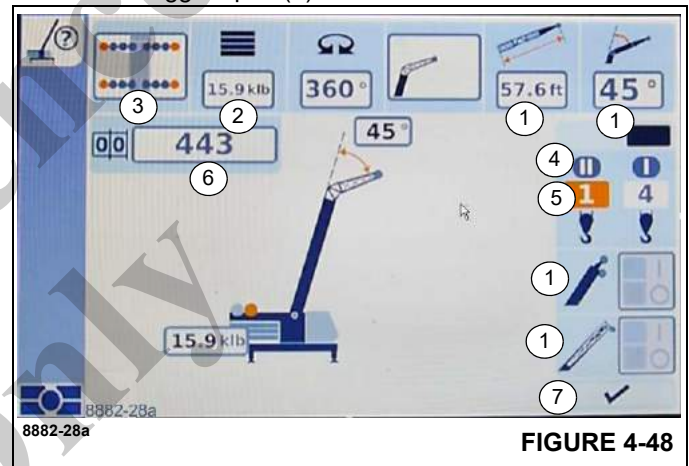

FIGURE 4-48
- Counterweight (2), (Figure 4-48)
- Boom system (1)
- Outrigger span (3)
- Select one of the desired components (1), (Figure 4-48) to (4).